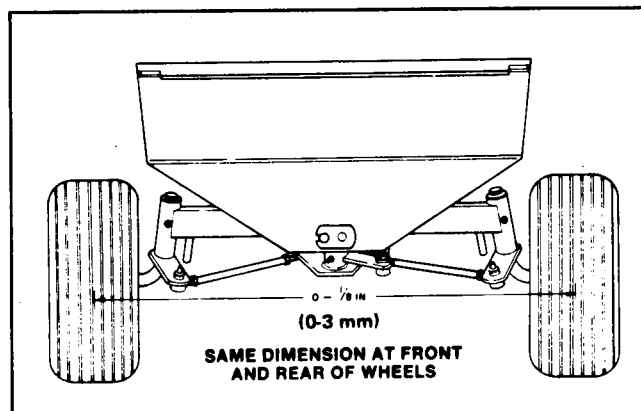

Figure 6
2. Loosen the jam nuts on both tie rods. Adjust both tie rods until center-to-center distance at front of rear wheels is 0 - 1/8 of an inch (0 - 3 mm) less than at the back of the rear wheels (Fig. 6).
3. When toe-in of rear wheels is correct, tighten jam nuts against tie rods (Fig. 6).